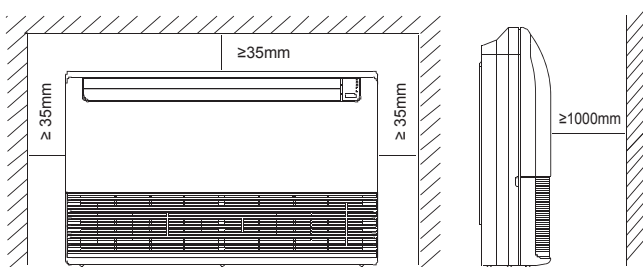
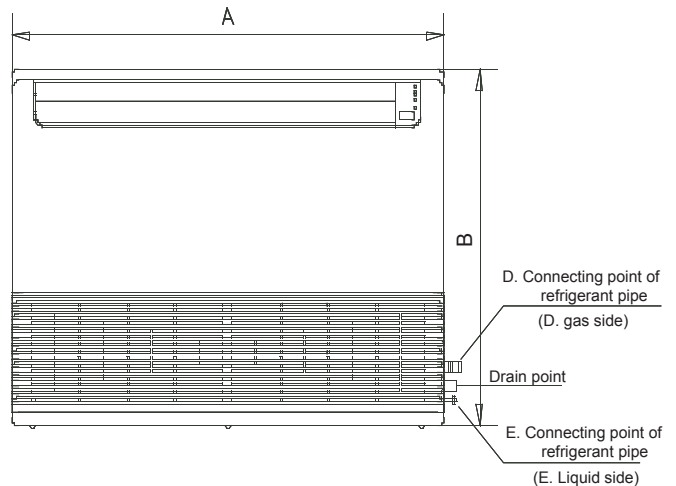
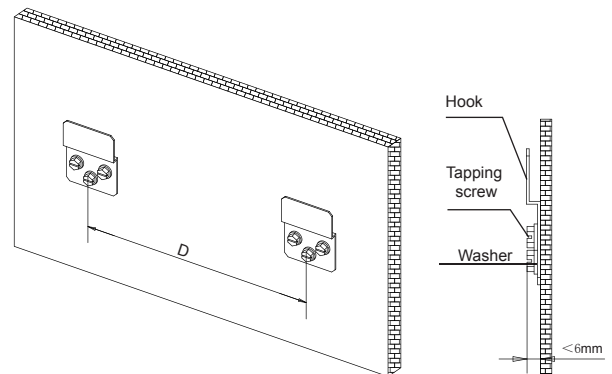
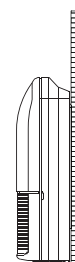

Fig.5-1
Fig. 5-2
Fig.5-3
Fig.5-4
(Refer to Fig.5-1, Fig.5-2, Fig.5-3 and Table 5-1 for specification.)
- 1 Fix the hook with tapping screw onto the wall. (Refer to Fig.5-3)
- Please Refer to Fig.5-3 and Fig.5-4 for the hanging screw bolts distance